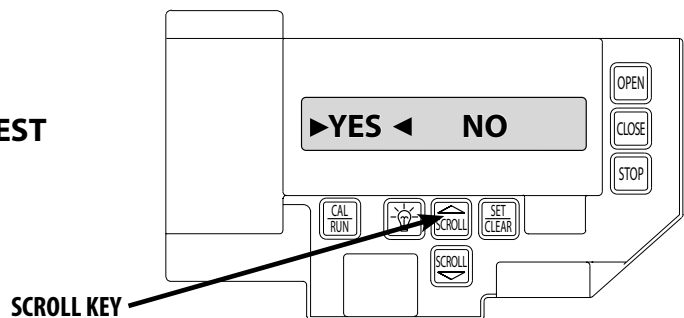

FIG. 4
4. Press SCROLL key (up or down) to toggle between YES and NO. FIGURE 4. \* If YES is selected, no change to operator calibration is made. If NO is selected the board will change the operator's down direction.